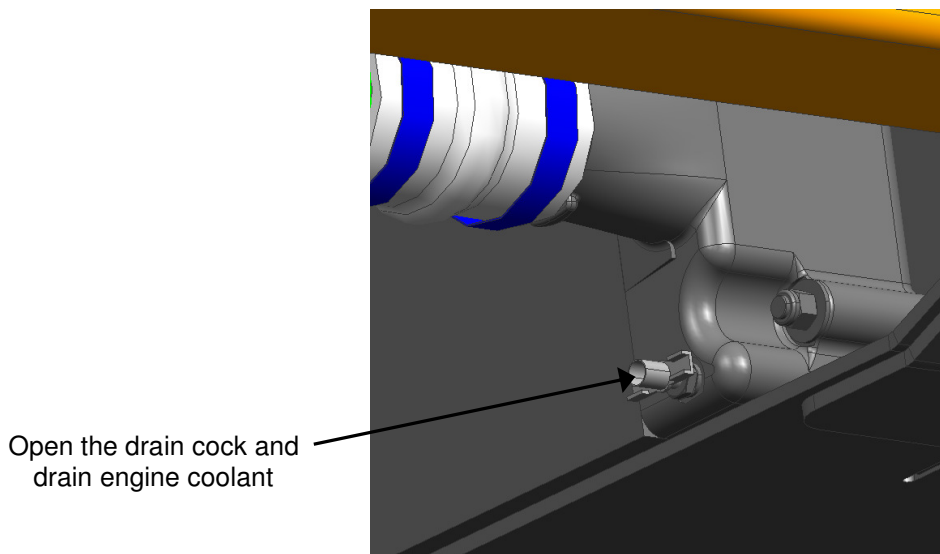

Figure 3: Drain Engine Coolant
7. Place a suitable container under the radiator drain cock. Open the drain cock and drain engine coolant until level is below the surge tank drop tube then close the drain cock. See Figure 3.